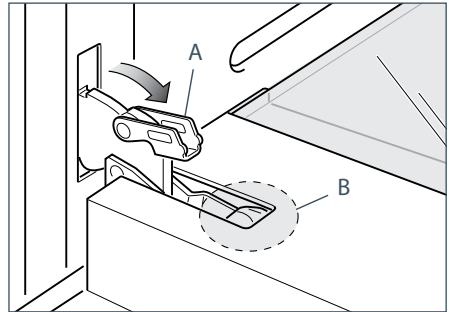

Fig.85b
- 2 Open the lever "A" completely on the left and right hinges (Fig. 85b).